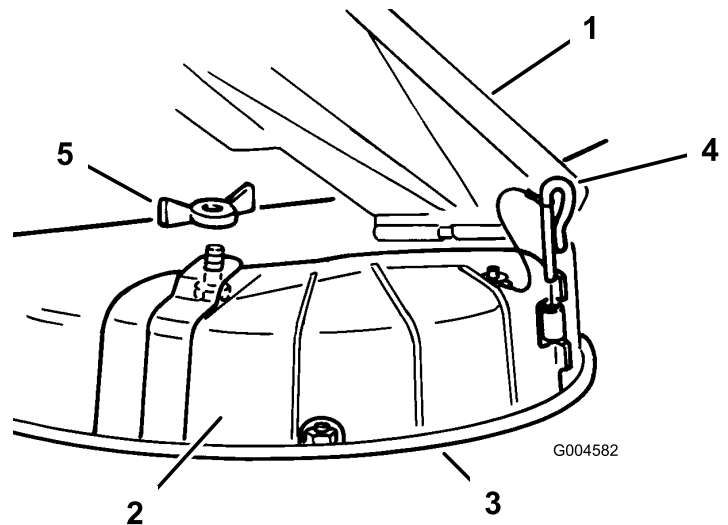

Figure 22
- Remove the wing nut and bolt securing the cover in place (Figure 22).
- Remove the hinge pin securing the cover to the deck (Figure 22).
- Lift the grass deflector and place the discharge cover over the opening onto the lower lip of the mower and slide it into the front hinge (Figure 22).
- Slide the hinge pin through the hinge (Figure 22).
- Secure the discharge cover to the mower with the wing nut (Figure 22).